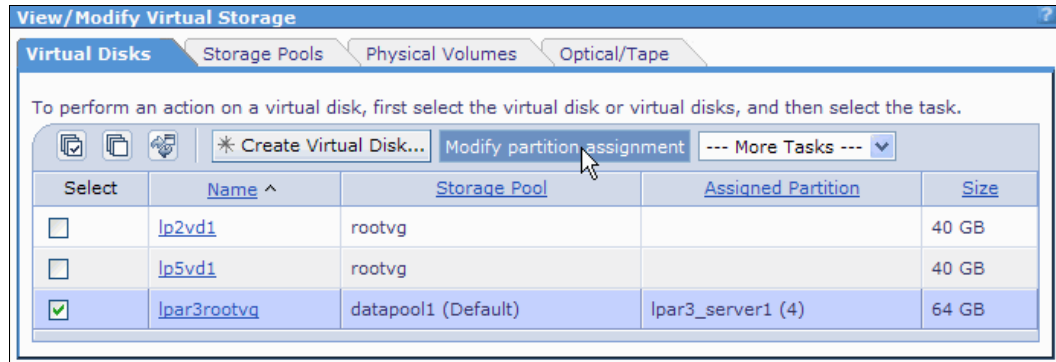

Figure 4-14 Modifying the virtual disk partition assignment
- Under the Virtual Disks tab in the work area, select the virtual disk for which you want to change the assignment, as shown in Figure 4-14. You can select more than one virtual disk.